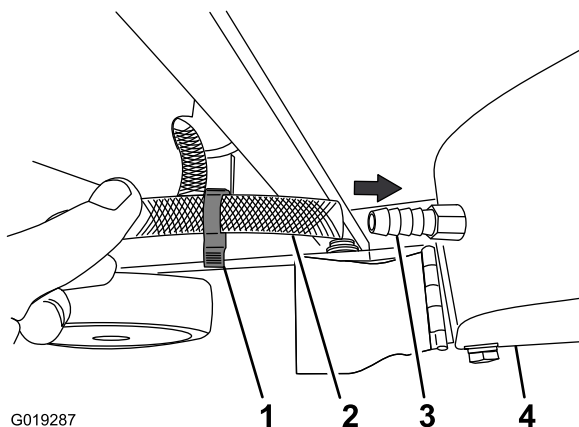

Figure 34
- A. Slip the clamp, removed in step 2 of Changing the Water Hose Position (page 22), over the free end of the water hose (Figure 34).
- B. Align the end of the water hose to the barbed fitting in the blade guard (Figure 34).